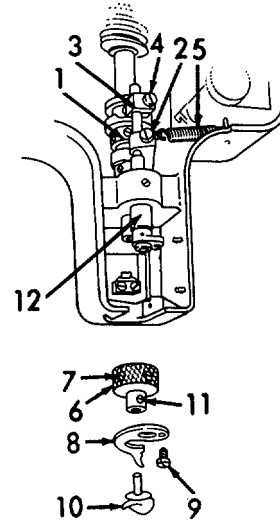

Figure 6-149. Looper and Finger Installation.
e. *Installation (Refer to Figures 6-149 and 6-150).*
- (1) Refer to Figure 6-149. Install shaft (12).
- (2) Install cam follower (1) and tighten setscrew (2).
- (3) Install cam roller holder (3) and tighten setscrew (4).
- (4) Install spring (5).
- (5) Install looper holder (6) and tighten three set-screws (7).
- (6) Install finger (8) and screw (9).
- (7) Install looper (10) and setscrew (11).